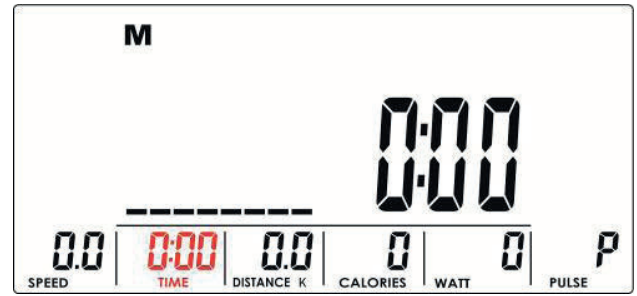

Fig. 5
3. Enter the time (fig. 5), the distance (fig. 6), the calories (fig. 7), and the pulse (fig. 8) with the encoder. Confirm your settings with MODE/ENTER.